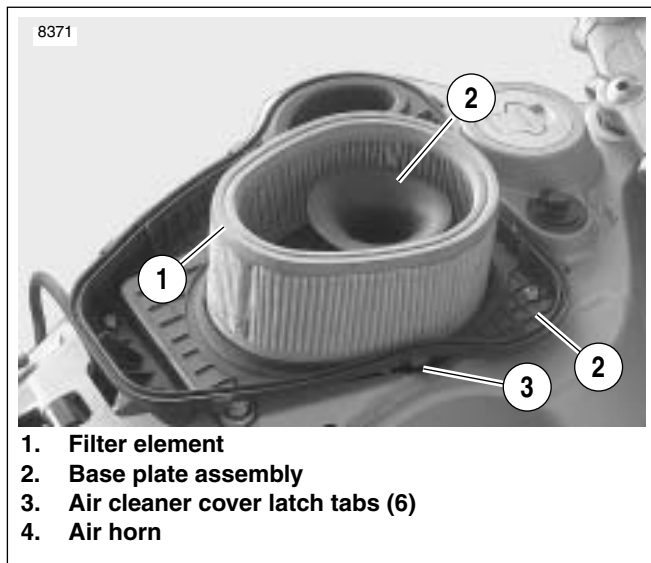

Figure 1-40. Installed Air Cleaner Filter Element
6. See Figure 1-40. Remove the filter element (1) from base plate (2). Inspect and replace if necessary.
See Figure 1-40. Cover the velocity stack so nothing can drop into the motor.
1. See Figure 1-40. Place filter element (1) on base plate (2).